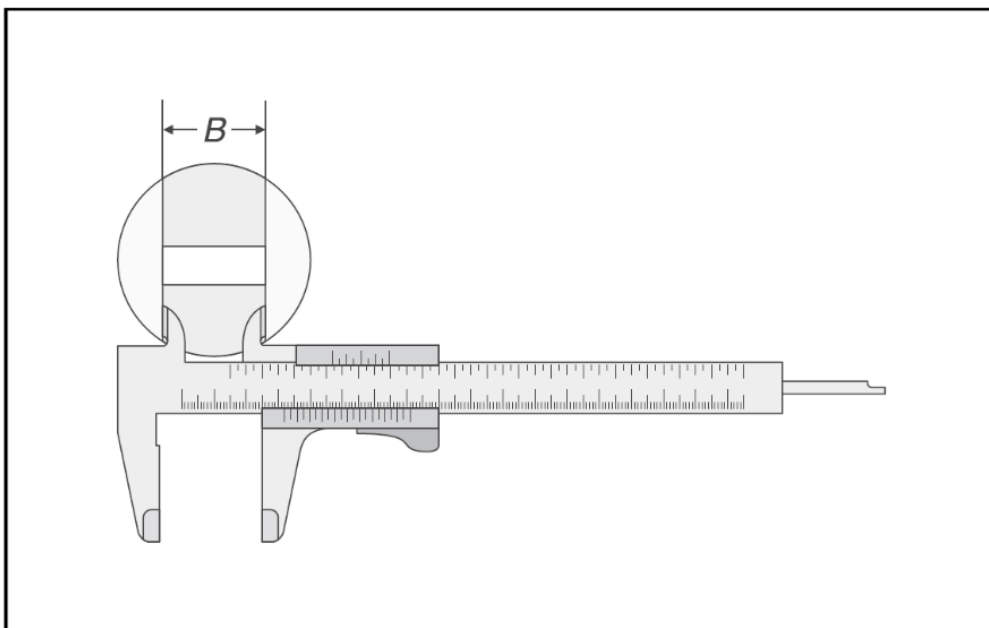

Fig. 11.5. Determination of an inside dimension with the acute measuring shanks
2. Estimate the inside dimension B (Fig. 11.5) on the millimeter scale and follow up with a more precise vernier reading.